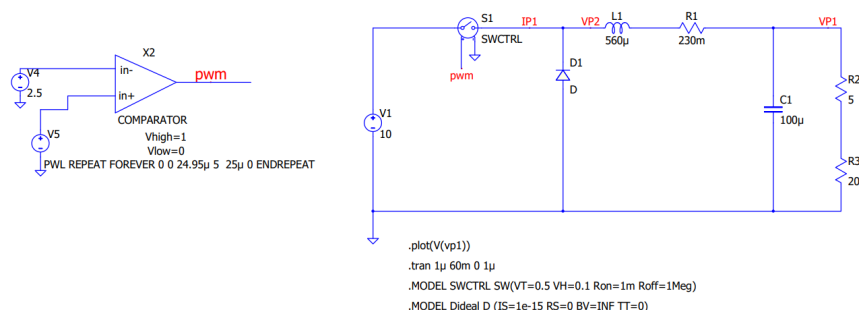

Figure 7: QSpice schematic of the Buck converter with pulse width modulator.
- **Action:** Open the QSpice circuit file for the buck converter with pulse width modulator. The QSpice schematic is shown in Figure 7
- **Action:** Using the same QSpice circuit file as in Task 1 (Figure 7).
Explain how the duty ratio is set in this QSpice circuit, given the parameters of the sawtooth waveform (from the PWL source) and the control voltage (e.g., $V4 = 2.5V$ in the QSpice schematic shown in Figure 7) (Hint: The duty ratio $D = V_{\text{control}}/V_{\text{sawtooth_peak}}$).
- **Action:** Modify the main input voltage source (V1 in the QSpice schematic of Figure 7) in your QSpice circuit to produce step changes. Instead of a constant DC source, you can use a PWL (Piecewise Linear) source.